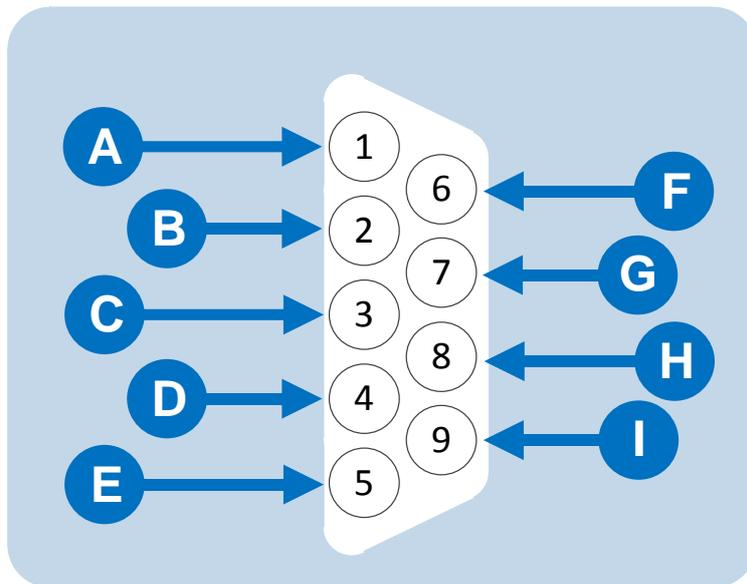

Figure 25: RLY-6 DB-9M connector pinout
To connect external devices to an RLY-6 interface module, use the two DB-9M connectors on the rear cable assembly panel for the interface module. For the pin assignment of these connectors as viewed from the frame side of the connector, see **Figure 25: RLY-6 DB-9M connector pinout**. If a DB-9F is plugged into the connector labeled **CH. A I/O**, relays 1 to 3 are available on that connector. The connector labeled **CH. B I/O** has the contacts for relays 4 to 6.
**Note:** In **Figure 25: RLY-6 DB-9M connector pinout**, the labels on the pins apply to either connector. For example, **#1/4 COM** refers to the wiper of **relay 1** if it is connected to **CH. A** and the wiper of **relay 4** if it is connected to **CH. B**.